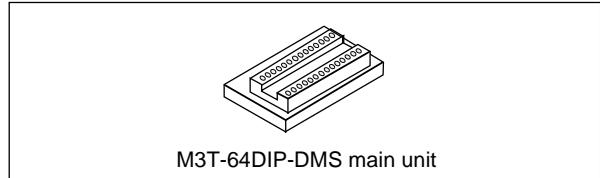

Figure 1 Package components of M3T-64DIP-DMS
2. Package Components (see Figure 1)